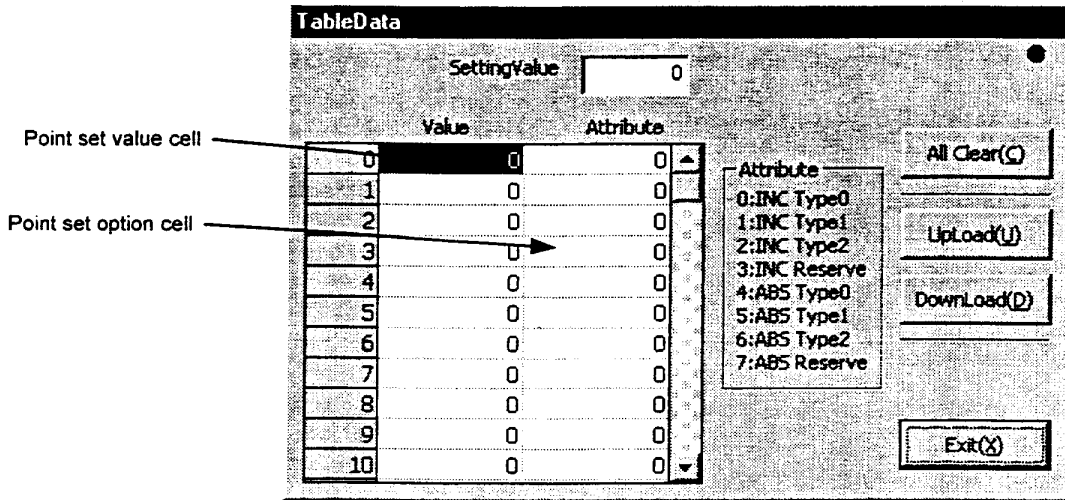

Figure 7.47 "Point Set" dialog box
Click "Point Set (P)" under "MainMenu" to display the "Point Set" dialog box (see Figure 7.47.)"